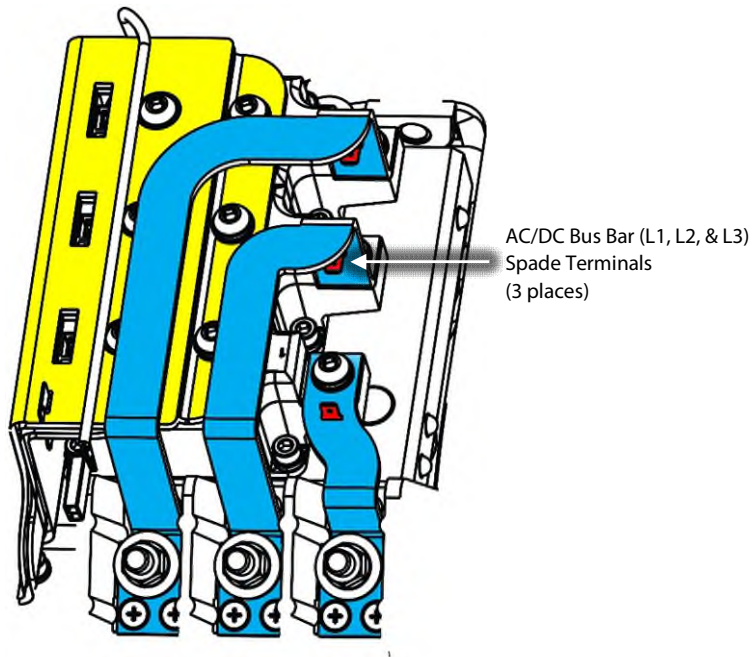

Figure 11 – L1, L2, & L3 Terminal Removal (All Other TTS/TGS/TTH/TGH Models)
- a. Disconnect the three (3) spade terminals labeled L1, L2, and L3 from the AC bus bars. Refer to Figure 11 – L1, L2, & L3 Terminal Removal (All Other TTS/TGS/TTH/TGH Models).